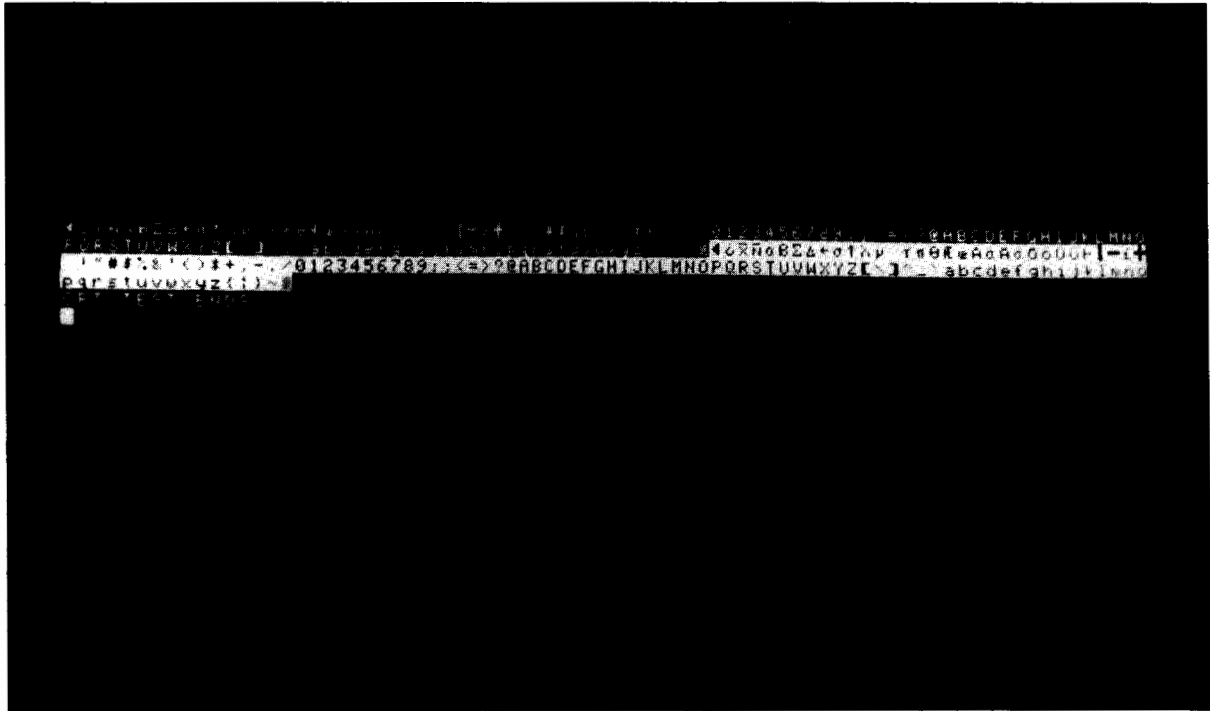

Figure 2-13. CRT Test Pattern 5
- k. Four lines containing two copies of the HP-87 character set, as shown in figure 2-13: one in standard video and the other in inverse video.